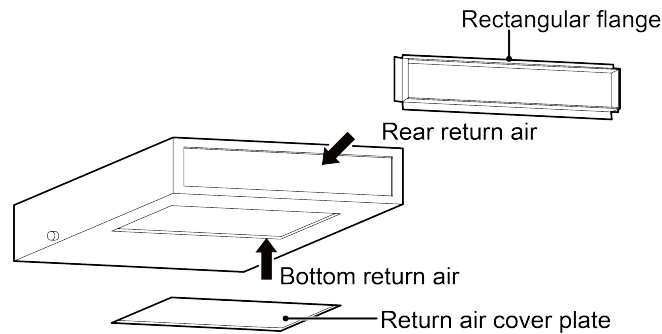

Fig 4.4.3.1
- (1) Square flange is defaulted to be fitted on the back before ex-factory. Air-return cover is on the bottom, as shown in Fig 4.4.3.1.